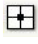

Figure 9
6. High resolution imaging in mode 2 (Immersion): switch SEM mode to Mode 2 (Figure 9). Repeat step 4 and step 5 to achieve sharpest image.